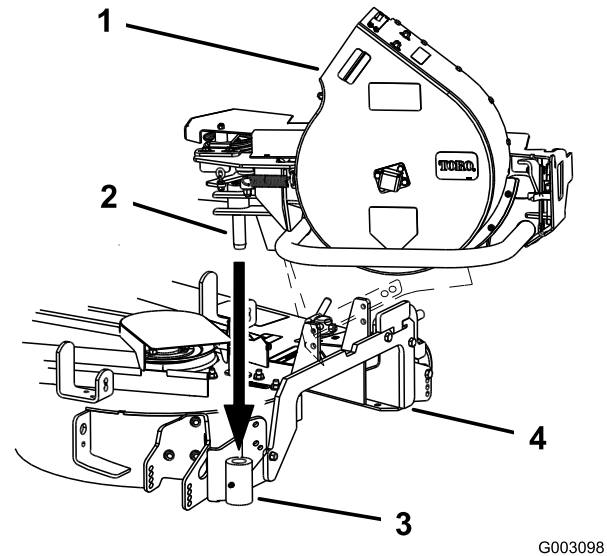

Figure 3
2. Install the blower into the new mounting plate (Figure 3).